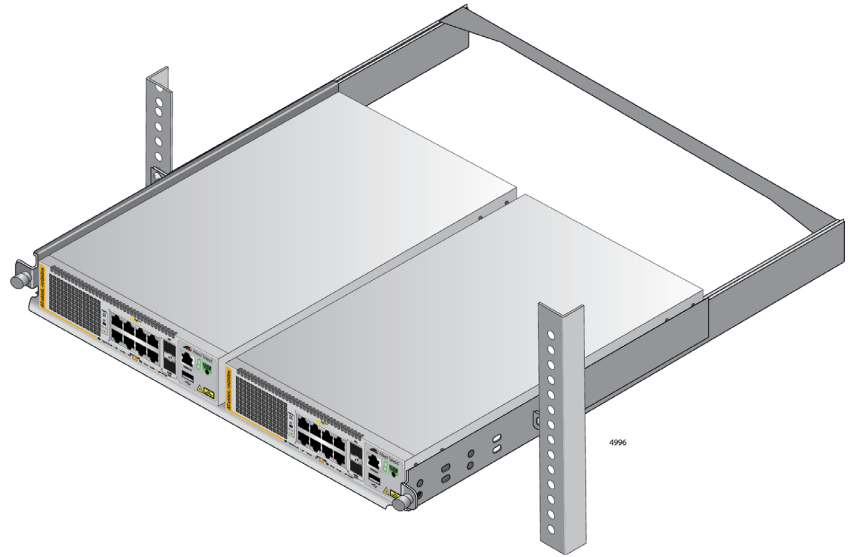

Figure 62. Sliding in the Bracket
10. Slide in the bracket tray. Refer to Figure 62.